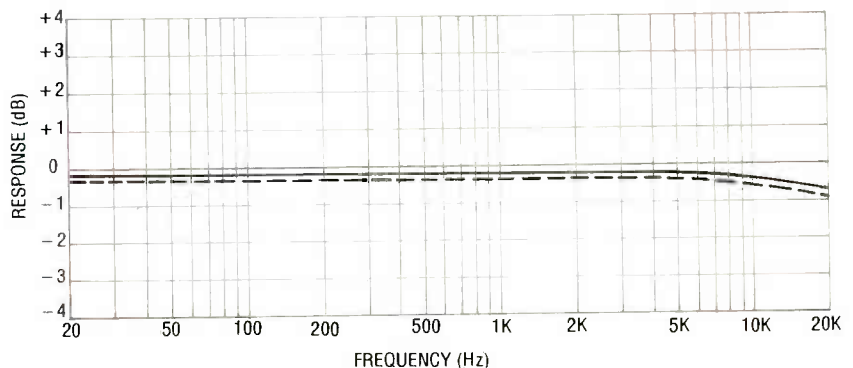

FIG. 8—SIGNAL LOSS OF 40 FEET of 12-gauge Romex cable.
The counter and power-supply circuit is shown in Fig. 8. The timebase for the counter comes from IC17 and IC18, both are
Therefore, if any type of speaker cable could cause frequency-response problems, the high capacitance and the skin effect of 12-gauge Romex should make it the ideal bad example. Another run was made using a 40-foot length of Romex, both into a dummy load and into the test speaker. In the graph of Fig. 8, we see a hefty  $\frac{1}{2}$ -dB droop at 20 kHz, compared to the response at 20 Hz. The overall signal loss and damping-factor degradation are less than those of the smaller cables that are shown in Figure 8, due to the lower resistance of 12-gauge cable.)
Check the power-supply before connecting the voltage tripler. Use a voltmeter to be sure the flyback transformer high-voltage output lead isn't shorted, or a shock hazard could occur: an oscilloscope would be useful. Also, you need some way to measure high voltage: if you don't have a high-voltage meter, you can use a voltage divider with a normal meter, as shown in Fig. 8 with a 100:1 ratio.
**FIG. 8—IF YOU HAVE NO HIGH-VOLTAGE** voltmeter, this RCA focus divider extends the range of a voltmeter with at least a 10-megohm input impedance by 100:1, so it reads up to 20 kilovolts on a 200-volt scale. R5 and R6 are in series, and R6 goes in parallel with both R7 and the DC voltmeter.